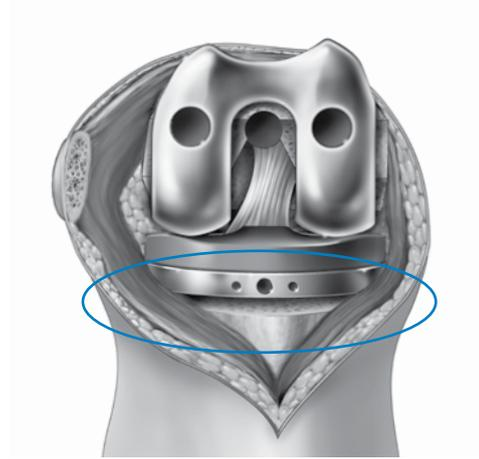

Figure 33
2. Anterior lift-off of the Tibial Insert Trial and/or Tibial Tray Trial (*Figure 33*)